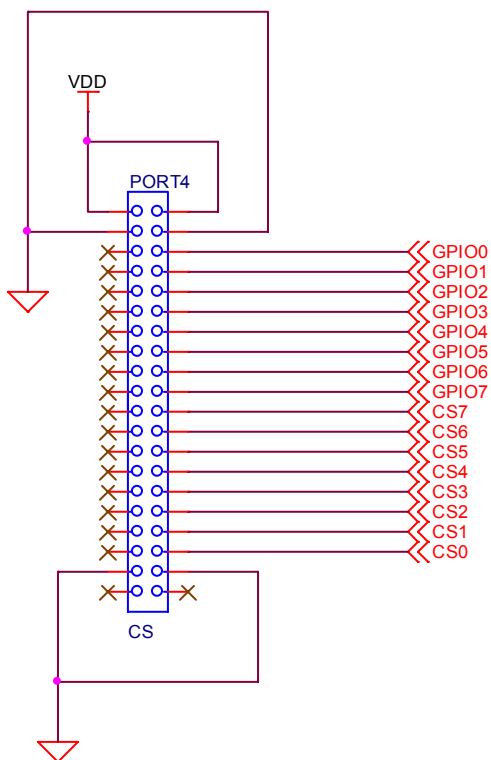

Figure 4. Cap Sensor Connector Pin Assign
**When evaluating the functions of the AK4160, it is necessary to connect a touch pad board with the PORT4. Regarding pin assignment of PORT4, refer to Figure 4 or circuit diagrams in this manual. As for the AK4160's register definitions, refer to the datasheet of the AK4160.**